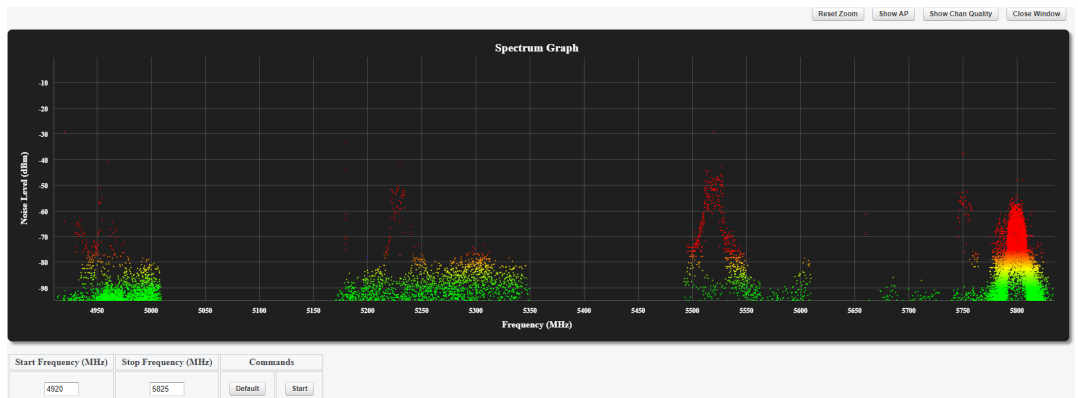

Figure 29. Spectrum Graph window (typical display)
- The **Spectrum Graph** window will open in a new web browser tab (Figure 29 \(page 82\)).